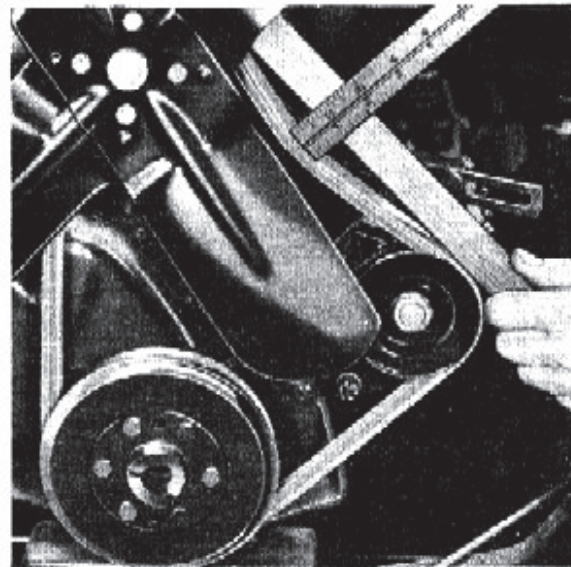

Fig. 41—Fan Belt Adjustment
The fan belt tension should be checked occasionally and, if necessary, adjusted to provide  $\frac{3}{4}$ " up or down movement from normal position at a point midway between fan and generator pulleys (fig. 41).
4. Pull the generator away from engine to tighten the belt. Tighten the brace to generator clamp bolt and check for  $\frac{3}{4}$ " total up or down movement of belt at a point midway between water pump and generator pulleys (fig. 41). If necessary loosen clamp bolt and move generator slightly to obtain desired belt tension then tighten generator attaching bolts.